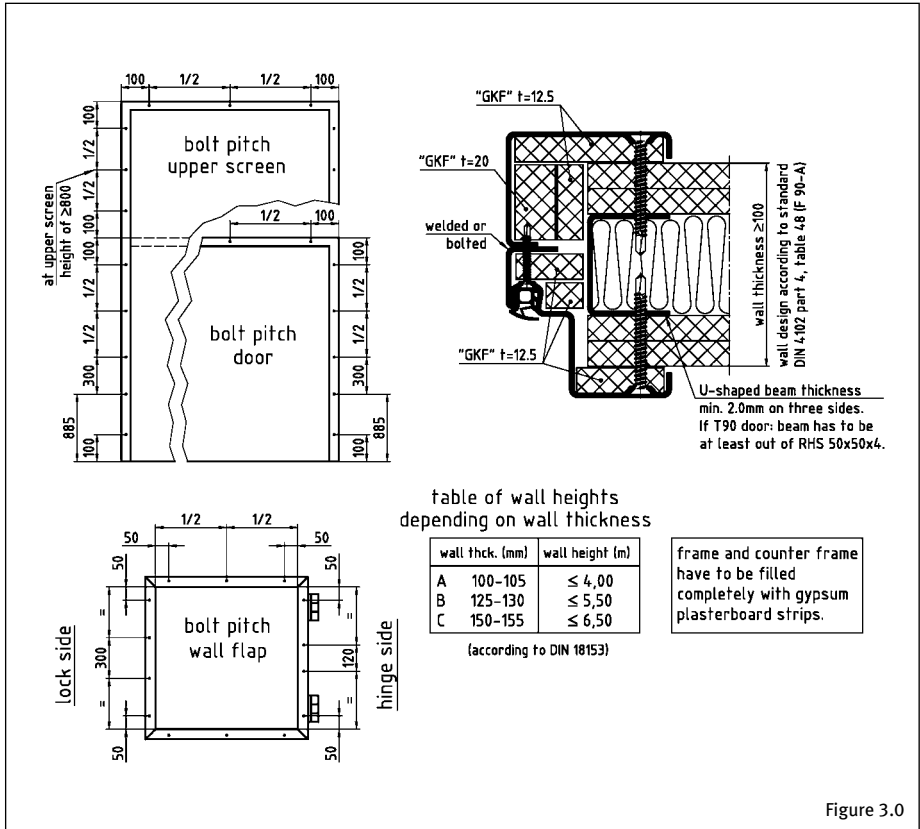

Figure 3.0
- 5.1 Make sure that the U-shaped profile of the wall (Figure 3.0) consists of 2 mm (or 50 x 50 x 4 mm square tubes with T90 doors) on three sides (on the lock and hinge side and transverse on top). This can be checked through the perforation of the profile. The scuncheon may not be planked on the face.
- 5.4 Back-fill the frame with gypsum plasterboard strips (Figure 3.0) and insert into the opening of the assembly wall as per rule mark.